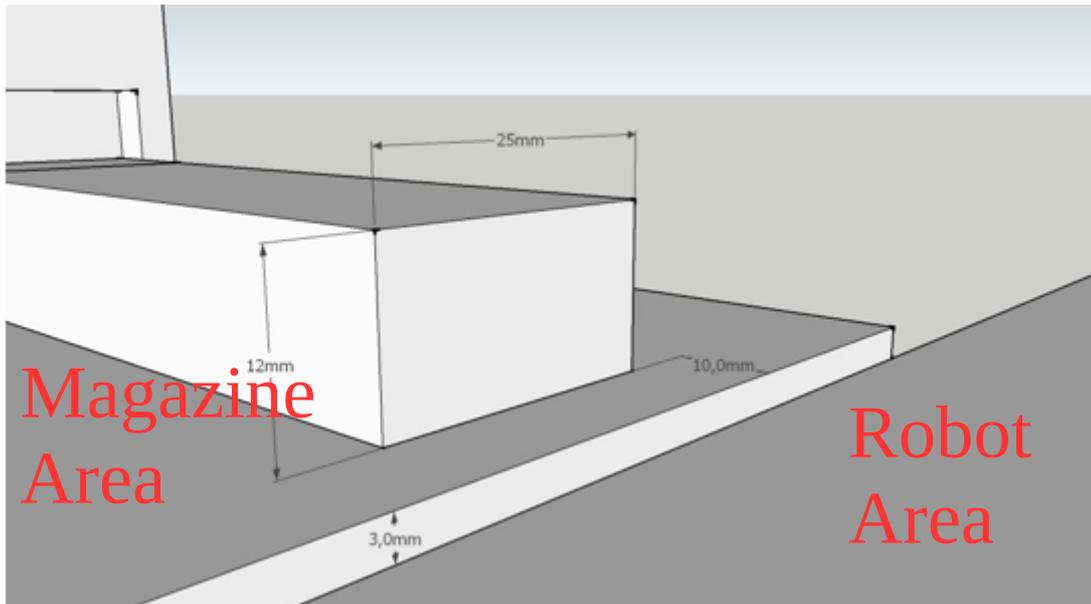

Figure 3 -
- 22) Figure 3 shows the position of a block after its transmission by the magazine system, and the position and dimensions of the magazine region relative to the robot region.